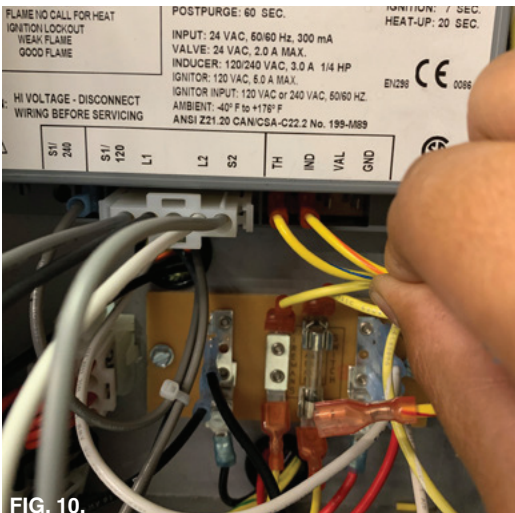

FIG. 10.
9. Connect the Orange/Yellow wire to IND ¼" tab at ICM as shown in Fig. 10.